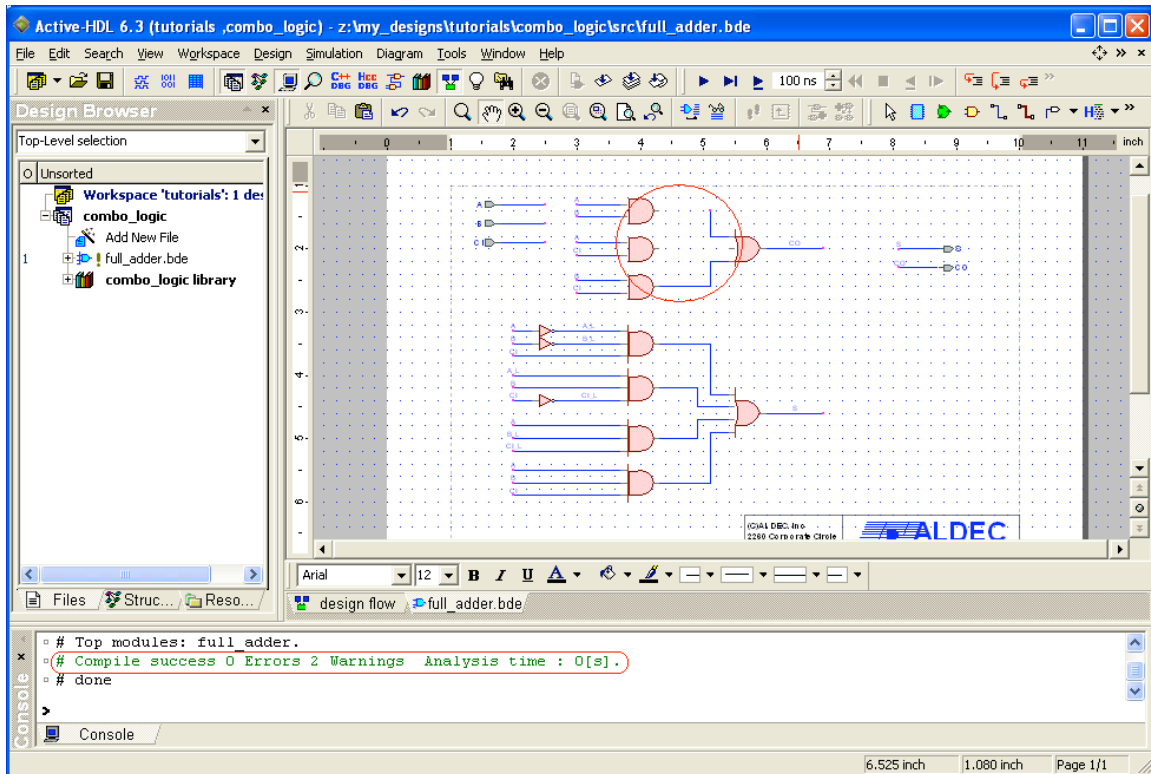

Figure 26
3. After you have checked your diagram and resolved any errors or warnings, click the Compile icon in the Standard toolbar. See the DRC Report (immediately following this section) and the debugging section, which follows the Simulation section, for examples on how to locate and debug errors in your design. The Console window will display the results of the compilation. When compiling a schematic, the console will generally compile successfully even if there are gates and/or terminals that are not connected (in some cases, warnings will be issued for unconnected ports). Therefore, just because a schematic compiles does not mean that it will do what you intended it to do during simulations. This is the reason you need to check your diagram prior to compiling. Figure 26 (next page) shows a successful compilation even though there are terminals and ports unconnected.